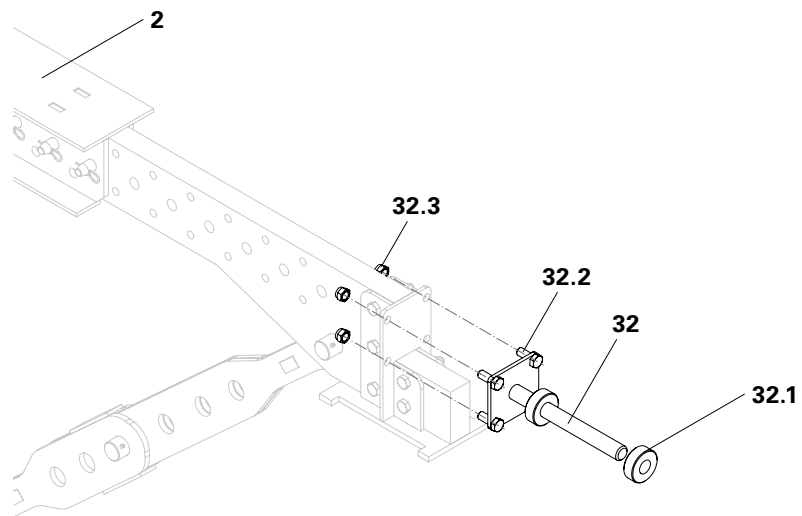

Fig. A2.09
1. Fix Bracing Spindle (32) to the Bearing Frame (2) using four bolts (32.2) and nuts (32.3). (Fig. A2.09)